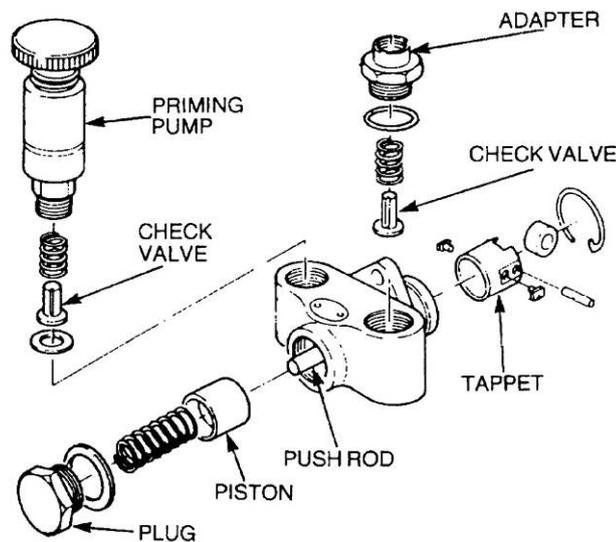

Figure 129 Transfer Pump - Exploded View
- a. An exploded view of the transfer pump is shown in Figure 129.